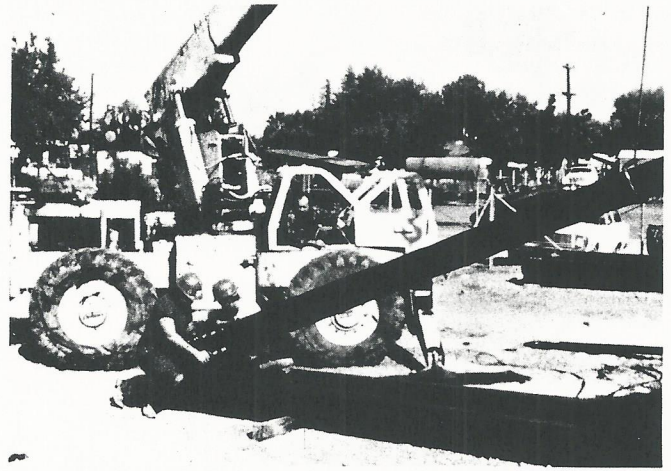

Figure 7 — Attaching rear leg of samson post to front leg assembly.
- Assemble rear leg of samson post to front leg assembly (Fig. 7). Leave bolts loose so that legs may be aligned with holes in unit base.